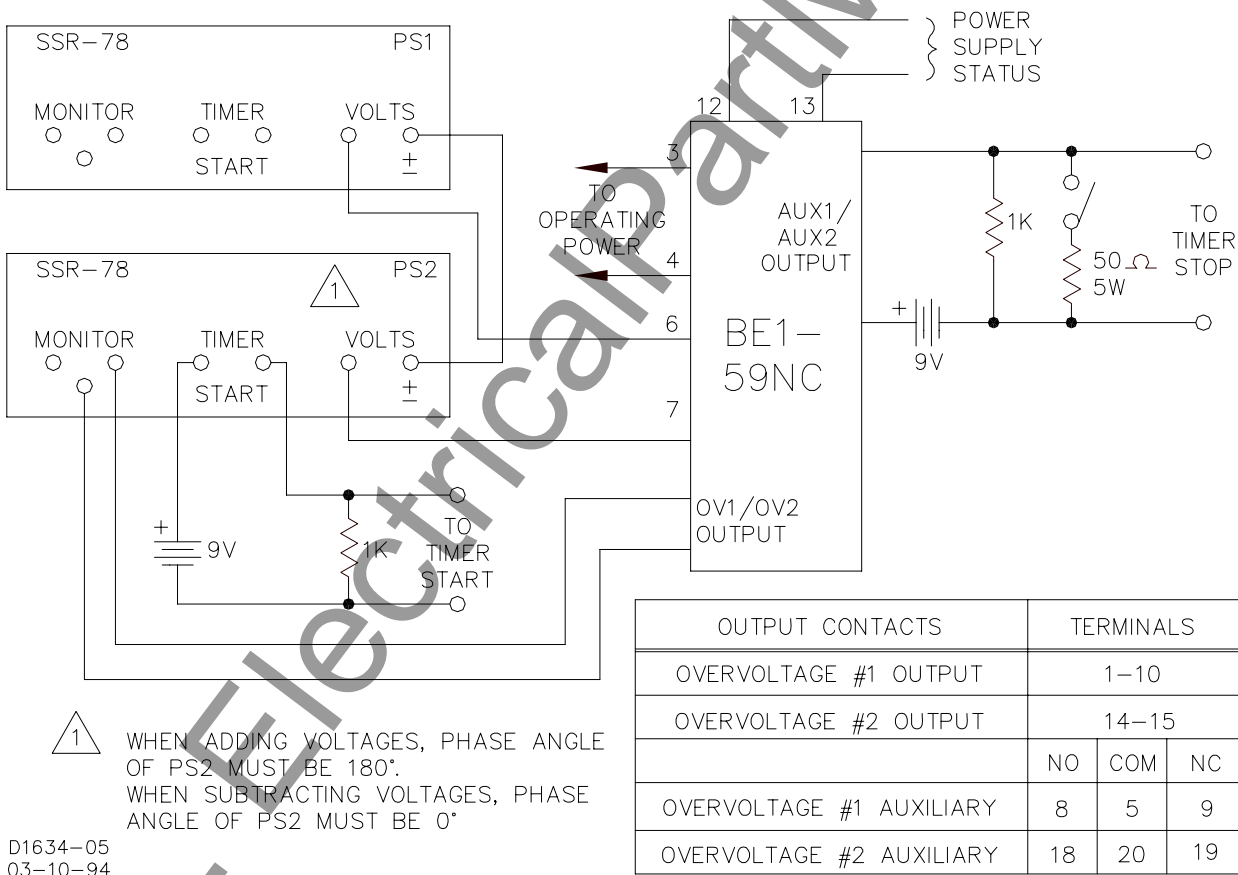

Figure 5-2. Typical Test Setup Timing Options D1 or D2
- Step 1. Perform the appropriate test setup for your relay. Use Figure 5-1 for timing option E2 and Figure 5-2 for timing options D1 or D2. On D1, setpoint one is inverse time and setpoint two is definite time.
- Step 1. With reference to Figure 5-2, set PS1 for the value shown in Table 5-1, input option (column 1) and for the specific pickup voltage (column 2, **Volts Pickup 50/60 Hz**). **Example:** input option 1, PS1 set to 10 volts, at 0°.
- Step 5. Reset the timer. Turn on PS1. While monitoring the output terminals indicated in Figure 5-2 for OVERVOLTAGE 1, initiate PS2 and record the time delay. Verify that the time is within 5.0% or 25 milliseconds (whichever is greater) of the time shown in Table 5-1.
- Step 8. Reset the timer. Turn on PS1. While monitoring the output terminals indicated in Figure 5-2 for OVERVOLTAGE 1, initiate PS2 and record the time delay. Verify that the time is within 5.0% or 25 milliseconds (whichever is greater) of the time shown in Table 5-1.
- Step 11. Reset the timer. Turn on PS1. While monitoring the output terminals indicated in Figure 5-2 for OVERVOLTAGE 1, initiate PS2 and record the time delay. Verify that the time is within 5.0% or 25 milliseconds (whichever is greater) of the time shown in Table 5-1.
- Step 13. With reference to Figure 5-2, set PS1 for the value shown in Table 5-1 and for the specific input option.
- Step 17. Reset the timer. Turn on PS1. While monitoring the output terminals indicated in Figure 5-2 for OVERVOLTAGE 2, initiate PS2 and record the time delay. Verify that the time is within 5.0% or 25 milliseconds (whichever is greater) of the time shown in Table 5-1.
- Step 20. Reset the timer. Turn on PS1. While monitoring the output terminals indicated in Figure 5-2 for OVERVOLTAGE 2, initiate PS2 and record the time delay. Verify that the time is within 5.0% or 25 milliseconds (whichever is greater) of the time shown in Table 5-1.
- Step 23. Reset the timer. Turn on PS1. While monitoring the output terminals indicated in Figure 5-2 for OVERVOLTAGE 2, initiate PS2 and record the time delay. Verify that the time is within 5.0% or 25 milliseconds (whichever is greater) of the time shown in Table 5-1.